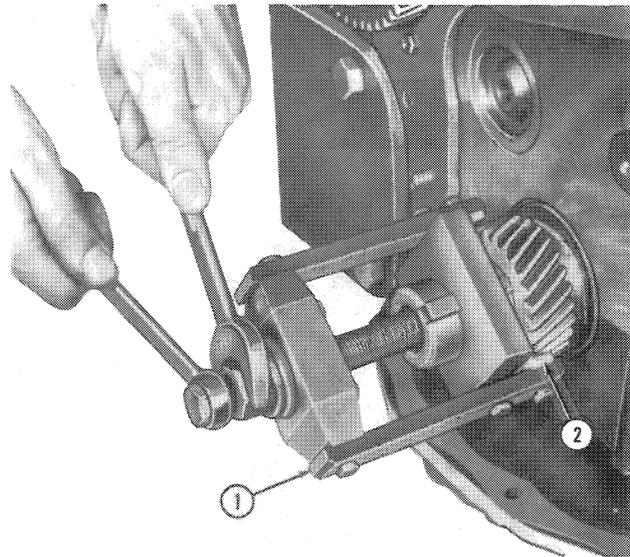

Figure 27
2. Locate the key then use Tool No. 2134 and 1237 to install the crankshaft gear, Figure 27.